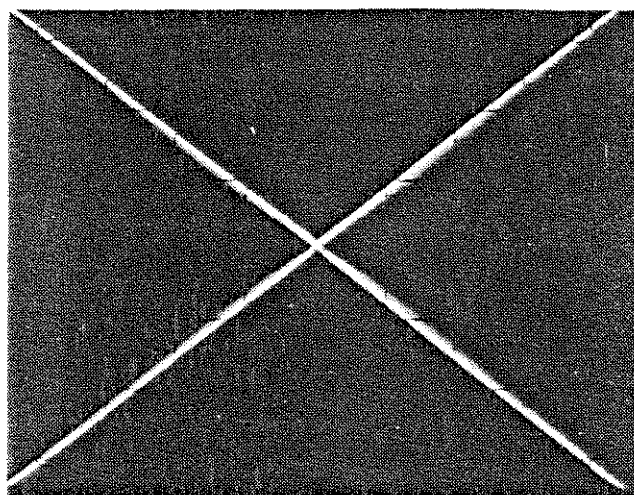

Fig. 4-18 Dot mode display
- f. CHECK that the Monitor display looks like Figure 4-18.